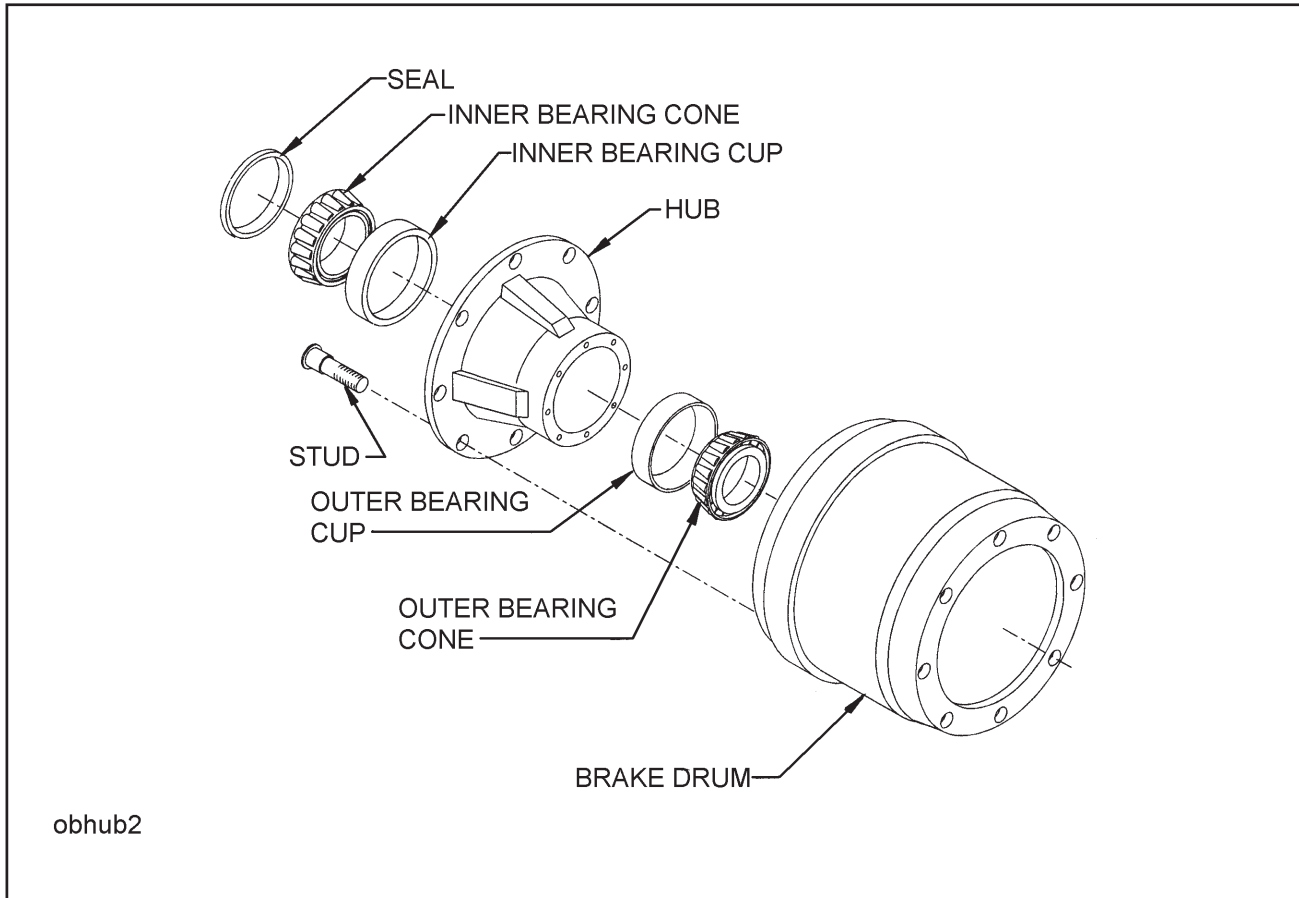

Figure 4-8 Outboard Mount Hub and Drum
4-9.4 Replace the hub and drum as follows (**See Figure 4-8**):
- a. Remove the brake drum (**See Figure 4-8**). It may be necessary to release the slack adjuster.